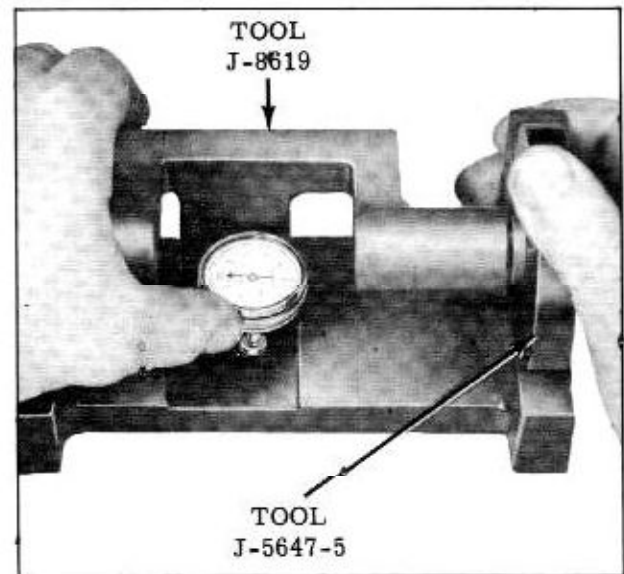

Figure 6-19 Setting Depth Gauge
1. After the preload has been established, "zero" depth setting gauge J-8619 and J-5647-5. (Fig. 6-19) Yoke centering pin must be centered in gauge block recess. Holding yoke down firmly, rotate gauge so needle will be on zero.